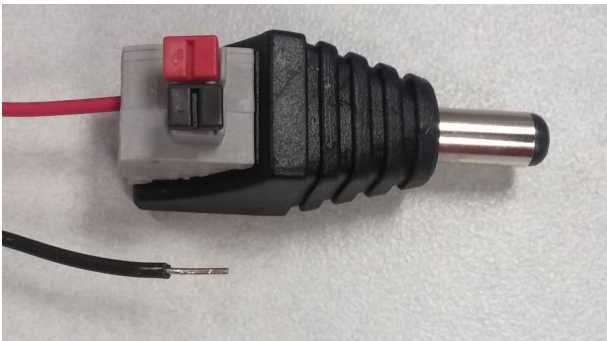

Figure 3: Plug Connector
- Plug adapter (fig. 3)
Plug Connector (fig. 3): Used only with a Retriever or DataScout Modem.